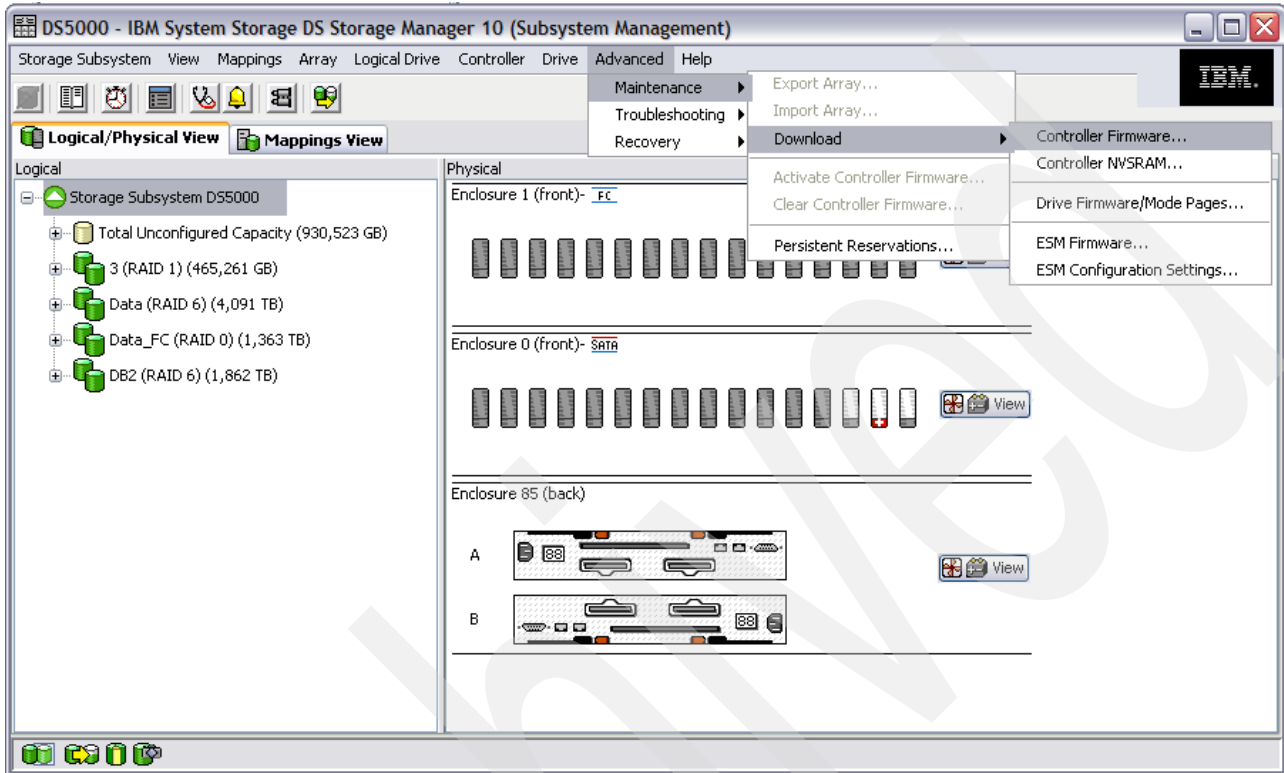

Figure 7-5 Subsystem Management window: Controller firmware update
1. Open the Subsystem Management window for the DS5000 storage subsystem that you want to upgrade. To download the firmware, select **Advanced** → **Maintenance** → **Download** → **Controller Firmware**, as shown in Figure 7-5.